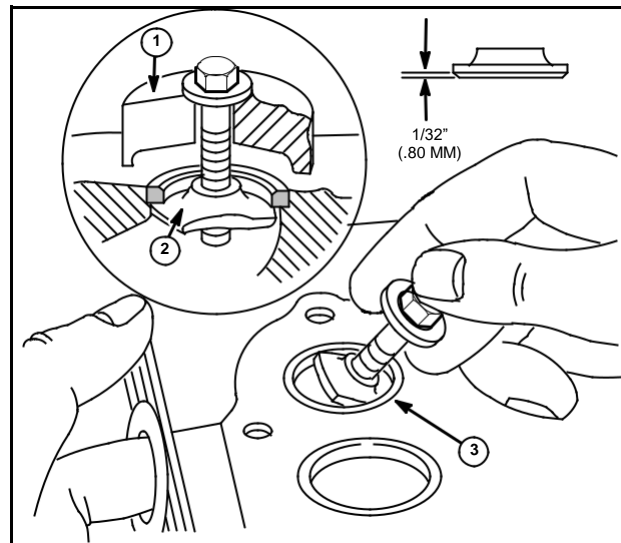

Fig. 14
1. Use Tool #19138, Valve Seat Puller, as shown in Fig. 14, and select the proper puller nut (2). See Table No. 5, page 12.
2. Be sure the puller body (1) does not rest on the valve seat insert, Fig. 14.
3. Turn the 5/16" bolt with a wrench until insert (3) is pulled out of the cylinder.
NOTE: On aluminum alloy cylinder models, it may be necessary to grind the puller nut until the edge is 1/32" (.80 mm) thick in order to get the puller nut under the valve insert, Fig. 14.